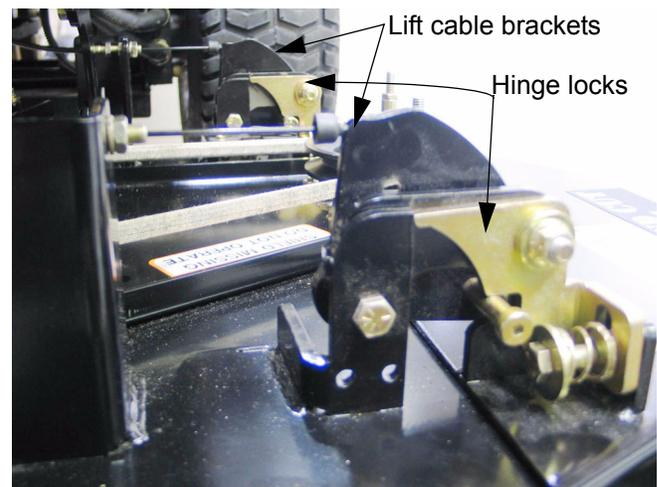

Figure 10.2
10.2. Each deck wing has two hinge locks and lift cable brackets, protected by lift wing shields. See Figure 10.2.